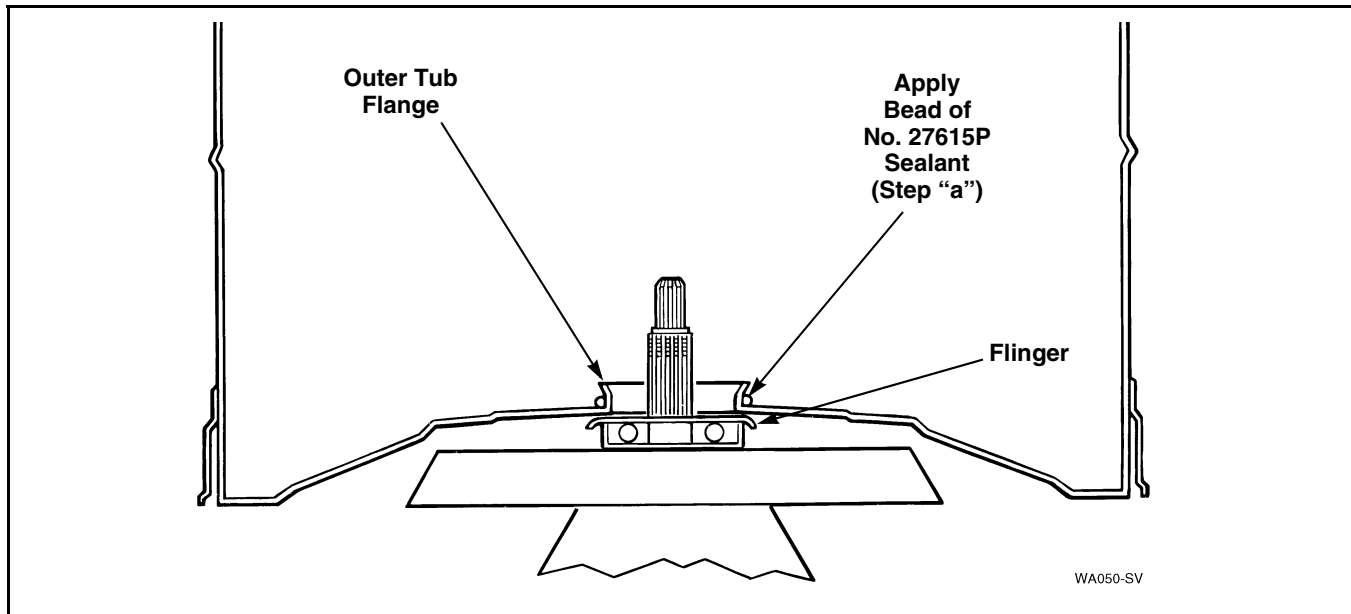

Figure 31
- Apply a small amount of 27615P Sealant, (supplied in kit) around outer surface of tub flange. Refer to *Figure 31*.
IMPORTANT: DO NOT allow sealant to get in contact with the flinger, because this could prevent flinger from keeping moisture out of upper bearing. Refer to *Figure 31*.